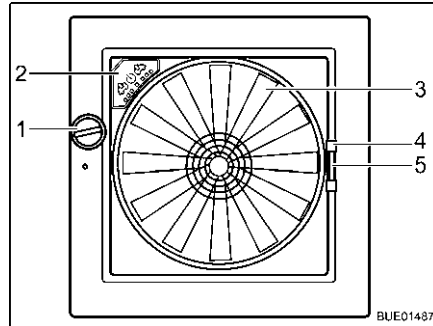

Fig. 94 Skylight Omni-Vent
**Opening:** ■ Turn the knob (Fig. 94,1) until the desired opening angle is reached.
**Closing:** ■ Turn the knob (Fig. 94,1) until the skylight is fully closed.
**Closing:** ■ Using the handle (Fig. 94,4) pull the insect screen across to the other side of the frame.
**Closing:** ■ Press together the handle (Fig. 94,5) of the shade.
**Fan** If the skylight is open, the interior can be ventilated with the 6-speed fan (Fig. 94,3). The fan is operated via the operating panel (Fig. 94,2).